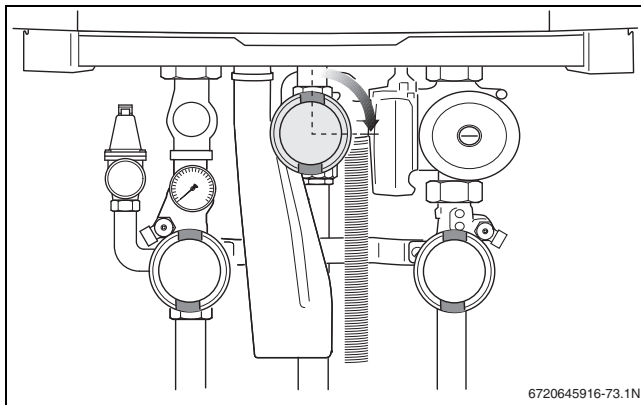

Fig. 75 Closing the gas valve
- ▶ Close the main gas supply or the gas valve (→ fig. 75).